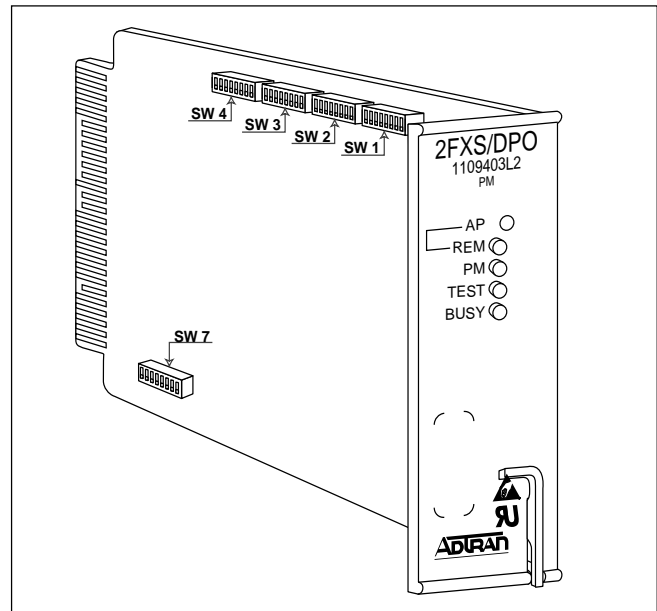

Figure 1. 2FXS/DPO
| Figure 1. 2FXS/DPO | 1 |
This practice provides installation and maintenance information for the ADTRAN® Intelligent 2-Wire Foreign Exchange Station/Dial Pulse Originate (2FXS/DPO PM) Dataport with Performance Monitoring, part number 1109403L2. It is a D4 compatible channel unit and operates in any standard D4 channel bank. Intelligent features requires the unit to be used in the ADTRAN ACT 2300, ACT 1900, or standard WECO® D4 channel bank using the ADTRAN LIU-3/PM common unit. The 2FXS/DPO PM provides an interface between a D4 channel bank Pulse Code Modulation (PCM) backplane interface and a 2-wire voice frequency (VF) transmission and signaling facility. **Figure 1** is an illustration of the 2FXS/DPO PM. The unit is multifunctional and can be provisioned to operate in the following modes:
Internal slide switches SW1,2, 3, 4, and SW7 are used to manually provision and set the operational modes and options of the unit. **Figure 1** displays switch locations.